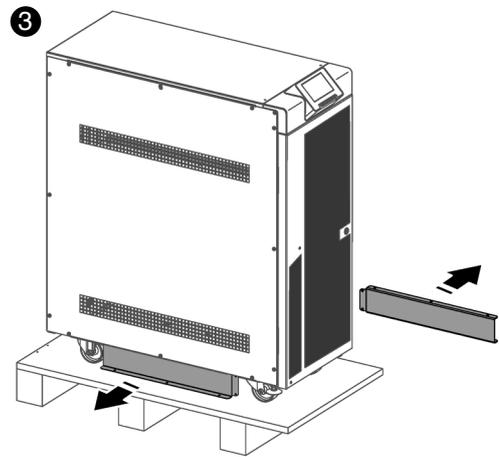

Fig. 24. Extraction of the guides to facilitate the descent of the equipment from its pallet.
- 3 Unscrew the guides on both sides of the base of the equipment provided in order to facilitate the descent of the equipment (Fig. 24).